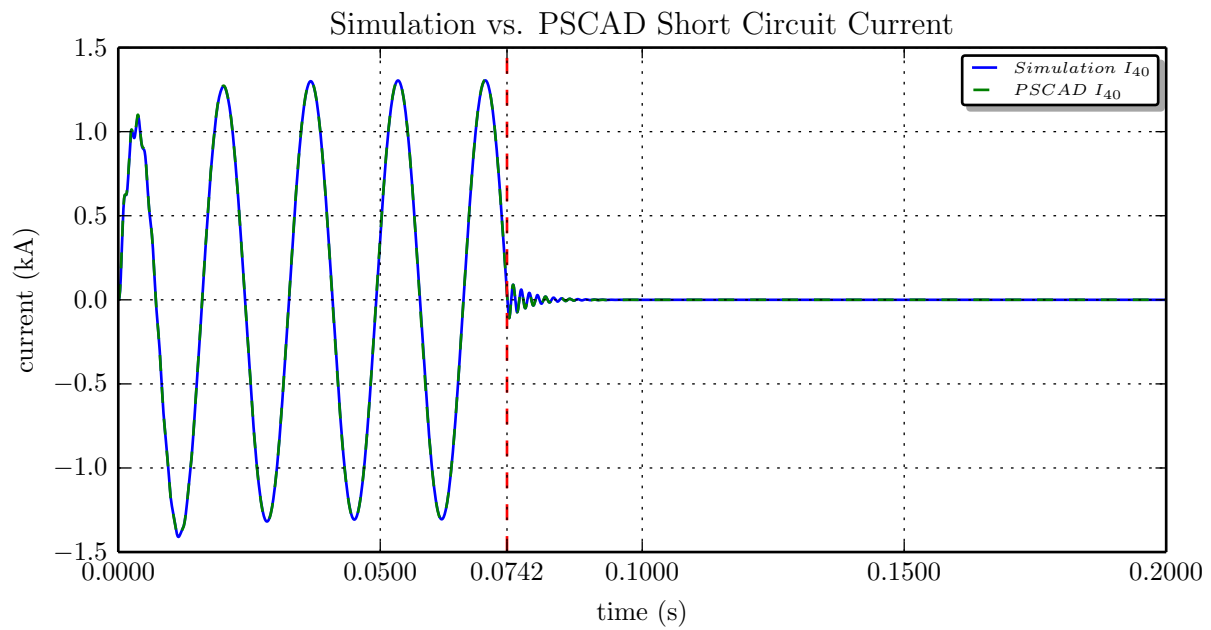

Figure 7: Plots of I_{40} short circuit current
- Plots of I_{40} which represents the short-circuit current at the end of the transmission line (Figures 7 and 8).